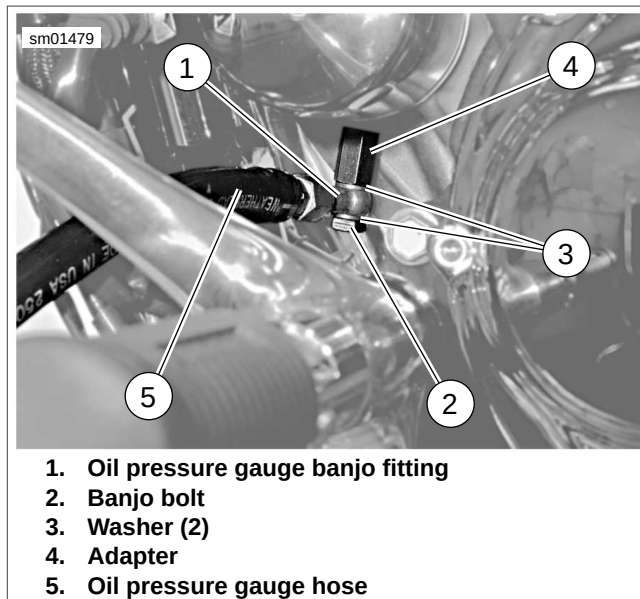
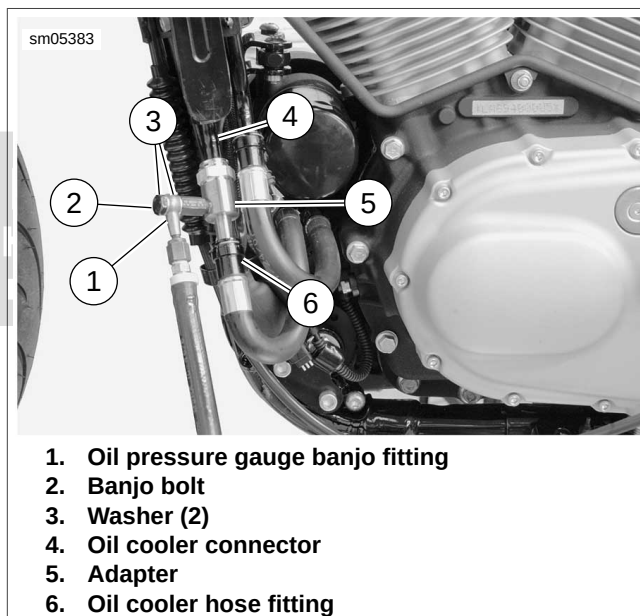

Figure 3-4. Oil Pressure Test Connections: XL Models
Figure 3-5. Oil Pressure Test Connections: XR Models
1. See Figure 3-5. Disconnect the quick connect fitting from the inlet side of the oil cooler (4). See 3.14 PRECISION COOLING SYSTEM: XR MODELS, General.
2. Connect OIL PRESSURE GAUGE ADAPTER (Part No. HD-96921-125) (5) to the oil hose (6).
3. Connect the other end of the adapter to the oil cooler fitting (4).
1. See Figure 3-4 or Figure 3-5. Assemble banjo bolt (2), washer (3), OIL PRESSURE GAUGE banjo fitting (1) and second washer onto adapter and tighten snugly.